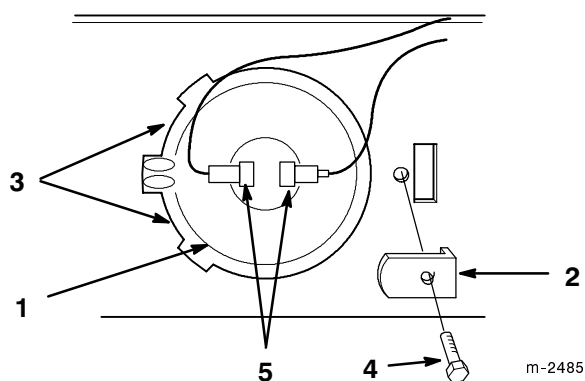

Figure 37
3. Remove screw securing retainer bracket (Fig. 37).
4. Lift and twist bulb out of pocket (Fig. 37).
1. Locate index boss horizontal and twist bulb under tabs on left side of pocket (Fig. 37).
2. Hold bulb in socket with retainer bracket and secure with screw (Fig. 37).
3. Push wire connectors onto bulb terminals (Fig. 37).